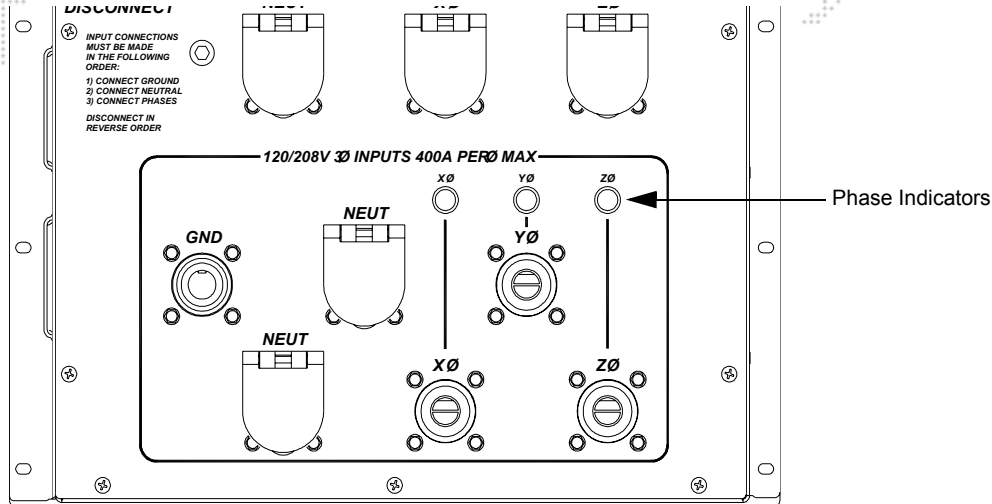

Figure 6: Phase Indicators Location
- Step 2. At rear of Disconnect, verify all phase indicators are lit (**Figure 6**).